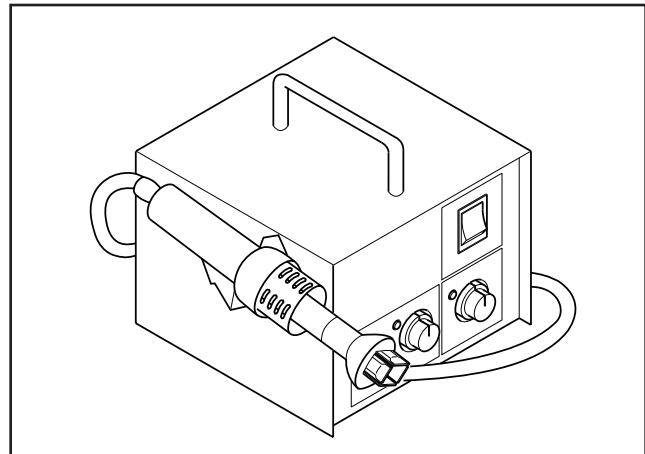

Fig.1
- (1) Prepare the hot-air flat pack-IC desoldering machine, then apply hot air to the Flat Pack-IC (about 5 to 6 seconds). (Fig. 1)